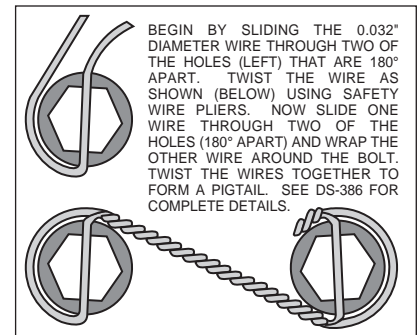

Figure 3. Safety Wire Diagram
- The caliper mount bracket assembly (1) should be installed first with clean, dry threads on the mounting bolts. Mount the bracket using bolts (2) and the stock washer saved from the disassembly installed from the backside of the spindle. The bracket must tighten squarely against the outboard side of the caliper mount bosses on the spindle body. Inspect for interference from casting irregularities, machining ridges, burrs, etc. Use one thin shim (3) between the bracket and spindle during initial trial fitting. Later, after the caliper, pad, and rotor alignment has been checked, and any necessary shims have been put in place, the mount bolts should be coated with red *Loctite*[®] 271 and torqued to 60 ft-lbs.
- With the larger I.D. side of the rotor (4) facing away from the hat (5), bolt the rotor (4) to the hat (5) through the backside of the rotor using washers (6) and bolts (7). Using an alternating sequence, apply red *Loctite*[®] 271 to the threads and torque bolts to 155 **in-lb**. For an added measure of security, the bolts may be safety wired using standard 0.032 inch diameter stainless steel safety wire as shown in Figure 3. Please refer to Wilwood's data sheet DS-386 (available at www.wilwood.com/Pdf/DataSheets/ds386.pdf) for complete safety wire installation instructions.